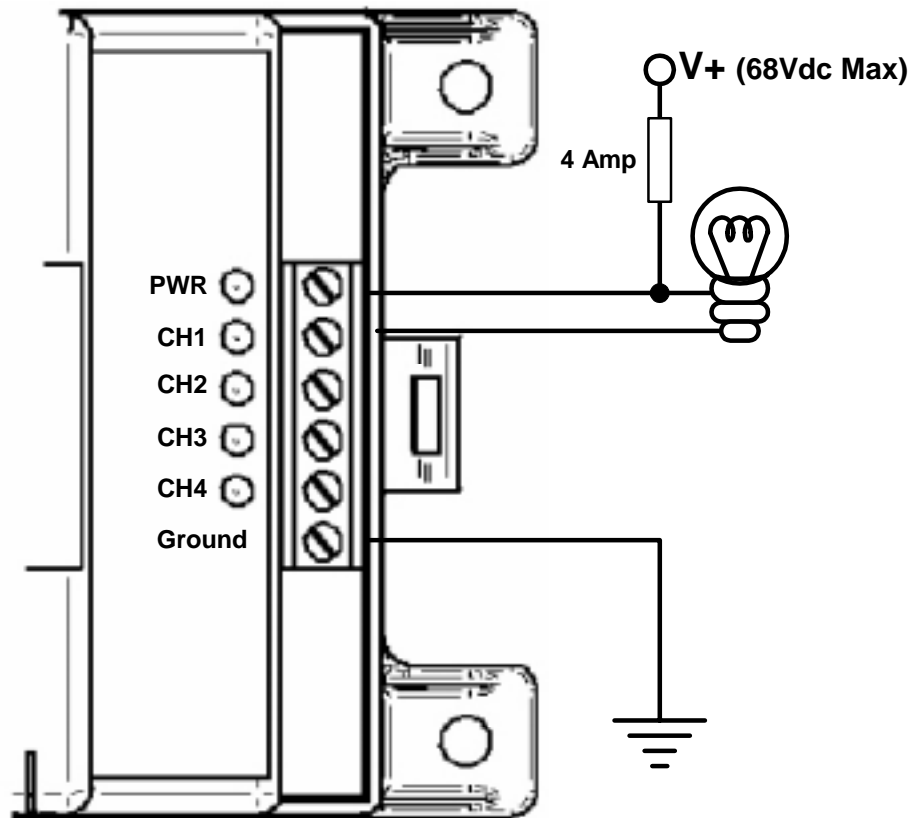

Figure 25. Driving a small load (> 750 mA)
A channel configured as Disabled (Input) can measure external voltage signals as shown in Figure 25. The input voltage source must have the same electrical ground as the Relay Driver ground. This type of measurement is commonly referred to as *single ended input*.
An example Meter Bus network is shown in Figure 25. A TriStar controller provides power to the Meter Bus network. Two (2) DIN rail mounted Relay Drivers and a TriStar Remote